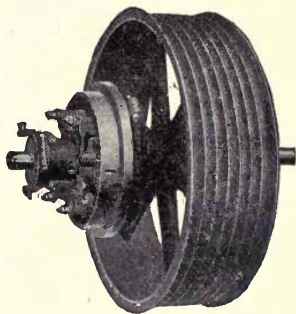

FIG. 142.—Pulley used for Rope Drawing.
**329. Rope Drives.**—Sometimes instead of a pulley, a wheel with grooves on its circumference (Fig. 142) is used for rope transmission. The use of rope for the transmission of power is more common in Europe than in the United States. The advantages claimed for this method of power transmission are: